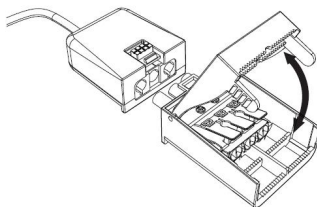

Fig. 2
- Open the terminal cover by squeezing the two lugs and push up (see Fig. 2)